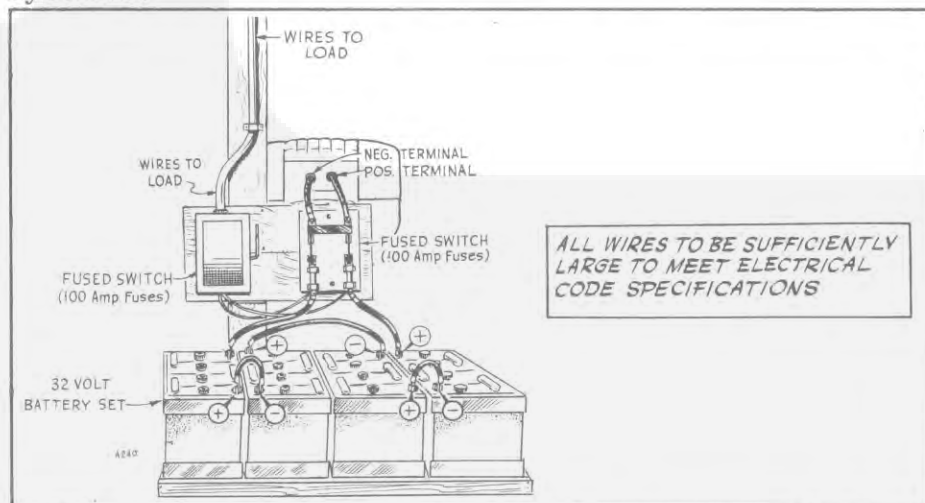

FIG. 10 - BATTERY CHARGING LOAD CONNECTIONS
A single throw, double pole fused switch should be installed between the plant and the battery. See Fig. 10. Your dealer should be able to supply a suitable switch. If not, they are available at most electrical supply houses. Be sure to use 100 ampere fuses in the switch. Keep the switch closed except when servicing the plant. It can then be opened to prevent accidental starting of the plant.
Connect a short length of cable from the battery positive (+) post to the hot side of the switch. Connect another length of cable from the hot side of the switch to the POSITIVE terminal on the plant control saddle. See Fig. 10.
**A. 32-VOLT BATTERY CHARGING PLANTS.** - Make load connections as shown in Fig. 10.